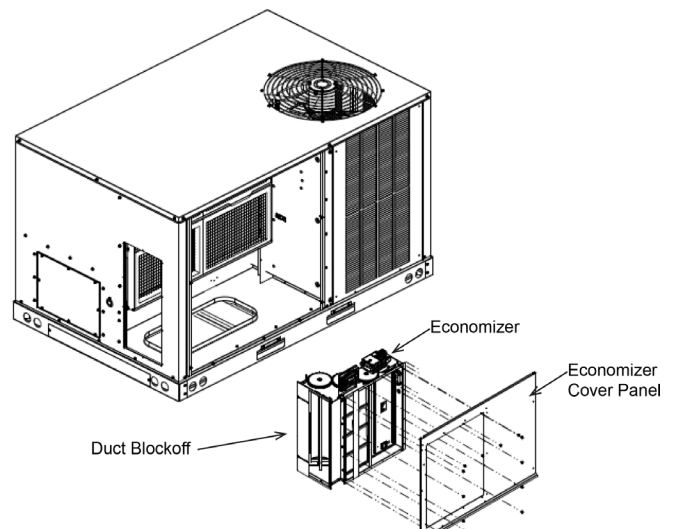

FIGURE 7 - SIDE ECONOMIZER INTO UNIT
5. Place economizer in return air section of unit aligned with the horizontal duct opening (see Figure 7).
6. Install the economizer cover panel using the screws removed in step 3. The holes in the economizer should line up with the holes in the cover panel (see Figure 7).